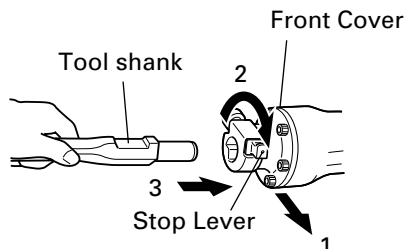

Fig. 2
- (1) Clean, then smear the tool shank with grease or machine oil. (Fig. 2)
- (2) Rotate the stop lever 180° in a clockwise direction while pulling it toward you. Next, insert the tool shank into the hexagonal hole on the front cover. (Fig. 2)